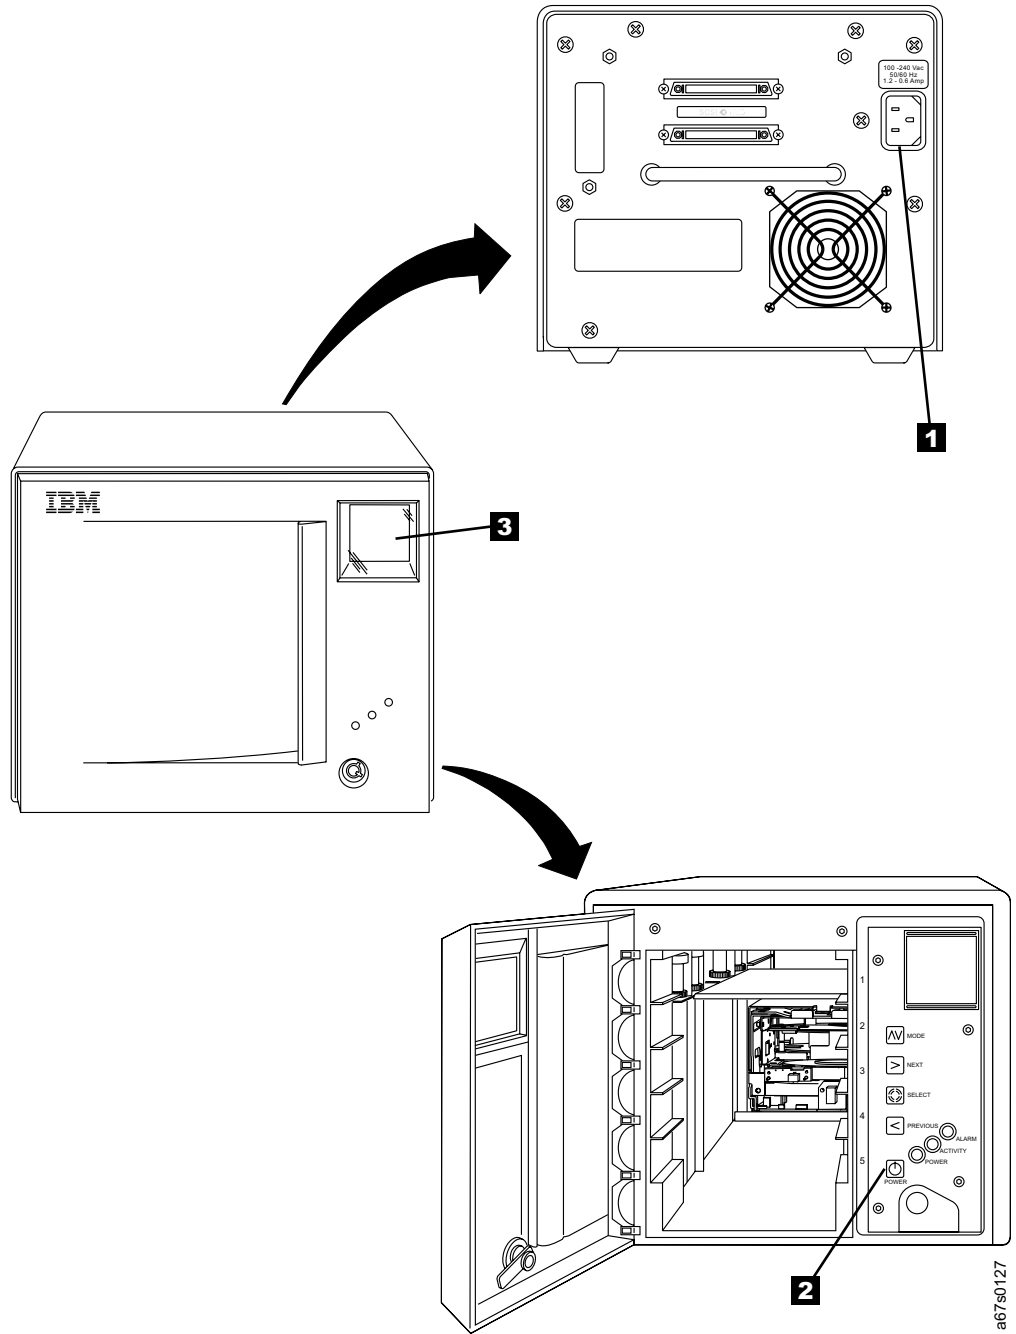

Figure 2. Connecting power to the 3581 Tape Autoloader
- \_\_\_ 2. Plug the power cord into the receptacle at the rear of the 3581 Tape Autoloader (see **1** in Figure 2 on page 9), then plug the other end into a grounded electrical outlet.
- \_\_\_ 3. Open the front door and power-on the 3581 Tape Autoloader by pressing and releasing the POWER button ( **2** in Figure 2 on page 9). When the autoloader completes the Power-On Self Tests (POSTs) for the drive and the library, a message appears in the message display **3**. The message varies, depending on the autoloader's mode of operation: